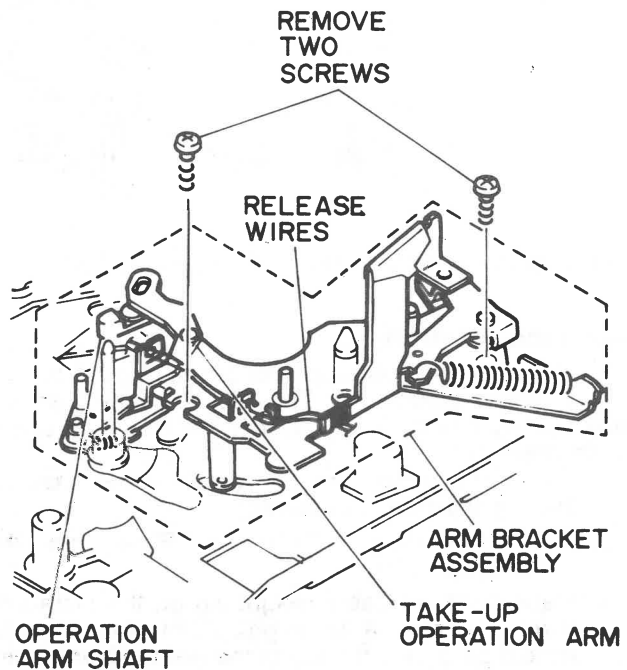

Fig. 34 Arm Bracket Assembly Removal
**Arm Bracket Assembly Removal (Fig. 34)**
4. Remove two (2) screws securing the arm bracket assembly.